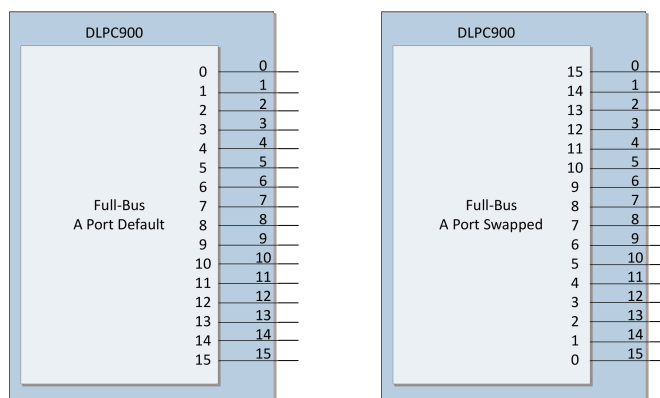

Figure 6-4. Controller to DMD Full-Bus Connections
- (4) The DLPC900 is a full-bus DMD signaling interface. Figure 6-4 shows the controller connections for this configuration.
- (5) The pulse duration minimum for any clock rate can be calculated using the following formulas.
Figure 6-4 shows the controller connections for full-bus default or swapped. Refer to the Firmware section of the *DLP® LightCrafter™ Single DLPC900 Evaluation Module (EVM) User's Guide (DLPU101)* or *DLP® LightCrafter™ Dual DLPC900 Evaluation Module (EVM) User's Guide (DLPU102)* for details on how to select the bus swap settings to match the board layout connections.